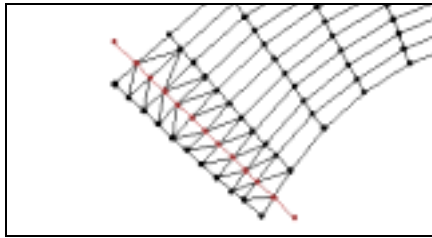

Figure 3-18 The breakline has been inserted.
3. Select *Nodestrings / Force Breaklines*. The elements will be split along the nodestring, as shown in Figure 3-18.